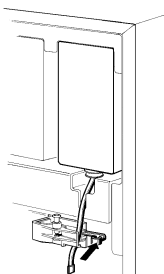

figure 3
- 3 - Push the faucet lever and insert the pinch tube in its housing (see figure 3).